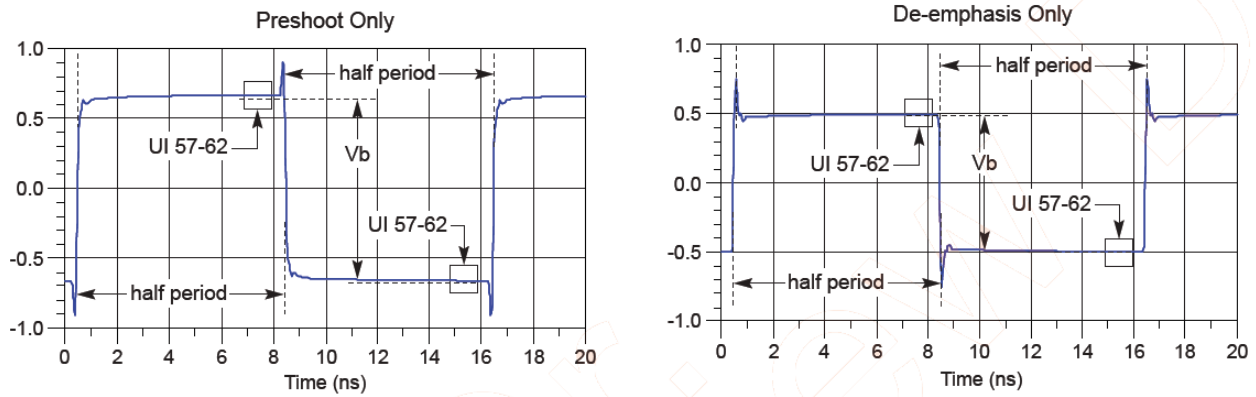

Figure 89 Waveform measurement points for pre-shoot and de-emphasis
8.0 GT/s and 16.0 GT/s PCIe signaling must support the full range of presets given in Table 8-1 of the PCI Express Base Specification, Rev 4.0. Presets are defined in terms of ratios, relating the pre-cursor and post-cursor equalization voltages. The pre-cursor ( $V_c$ ) is referred to as pre-shoot, while the post-cursor ( $V_b$ ) is referred to as de-emphasis. This convention permits the specification to retain the existing 2.5 GT/s and 5.0 GT/s definitions for Tx equalization, where only de-emphasis is defined, and it allows pre-shoot and de-emphasis to be defined such that each is independent of the other. The tolerances in Table 8-1 also apply to 2.5 and 5.0 GT/s de-emphasis. The maximum swing,  $V_d$ , is also shown to illustrate that, when both  $c_{+1}$  and  $c_{-1}$  are non-zero, the swing of  $V_a$  does not reach the maximum as defined by  $V_d$ . Figure 8-5 is shown as an example of transmitter equalization, but it is not intended to represent the signal as it would appear for measurement purposes. The high frequency nature of PCIe signaling makes measurement of single UI pulse heights impractical. Consequently all amplitude measurements are made with low frequency waveforms, as shown in Figure 89.